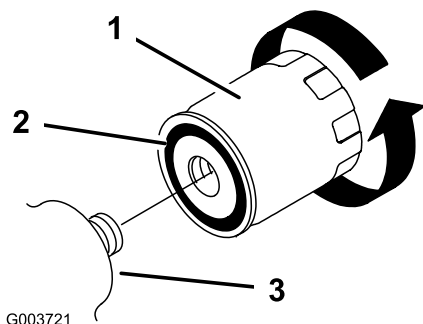

Figure 40
5. Remove the old filter (Figure 40) and wipe the surface of the filter adapter clean.
6. Apply a thin coat hydraulic fluid to the rubber gasket on the replacement filter (Figure 40).
7. Install the replacement hydraulic filter onto the filter adapter (Figure 40). Tighten it clockwise until the rubber gasket contacts the filter adapter, then tighten the filter an additional 1/2 turn.